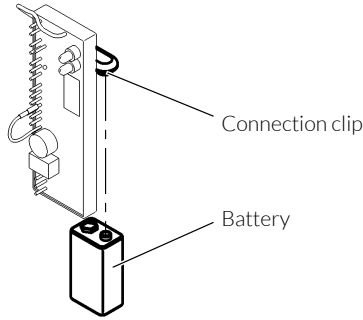

Fig. 4: Battery replacement
- / Release the battery from the connection clip of the connection cable behind the electrical circuit (see fig. 4).